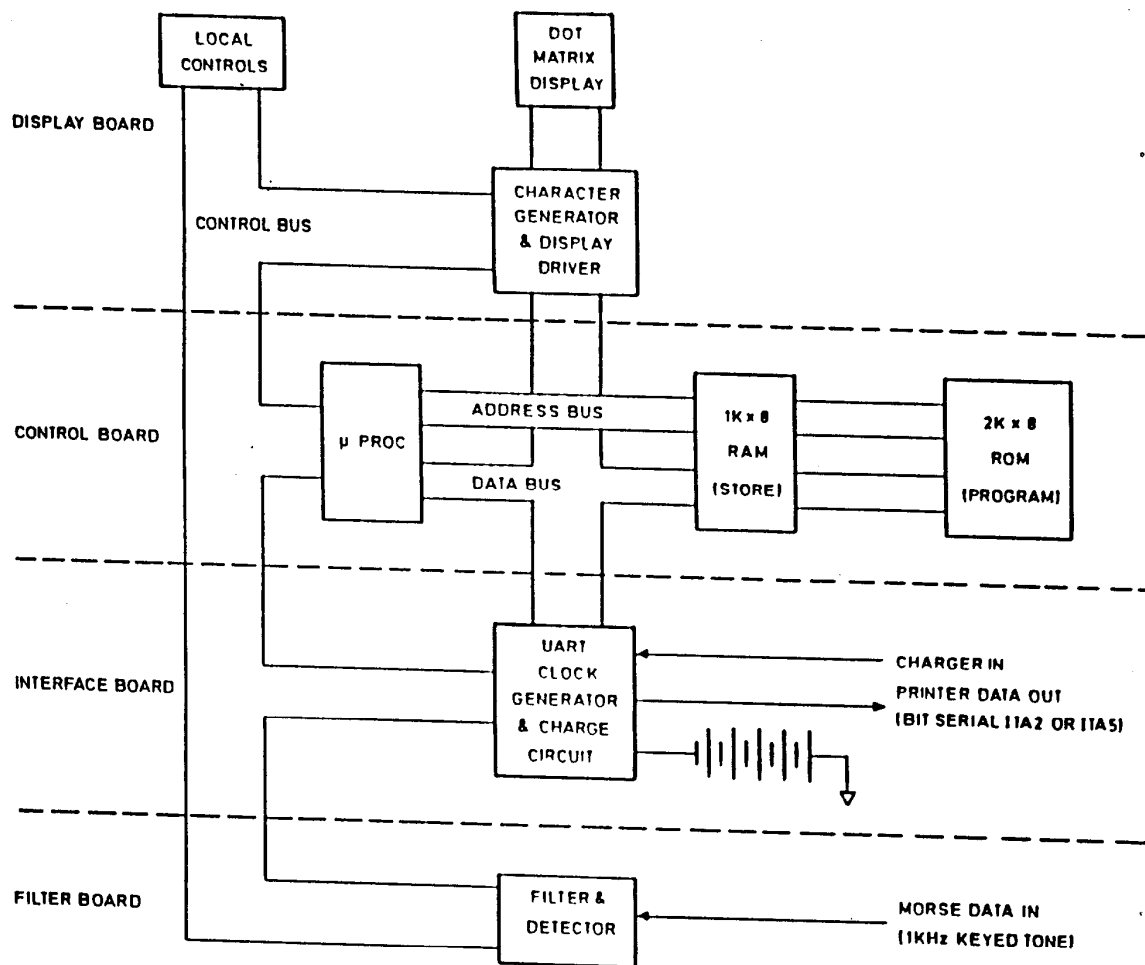

Fig. 5.1.1
- 2.1 The unit consists of four printed circuit boards and is shown in block diagram form in Fig. 5.1.1. The basic function of each of the printed circuit boards is as follows:-